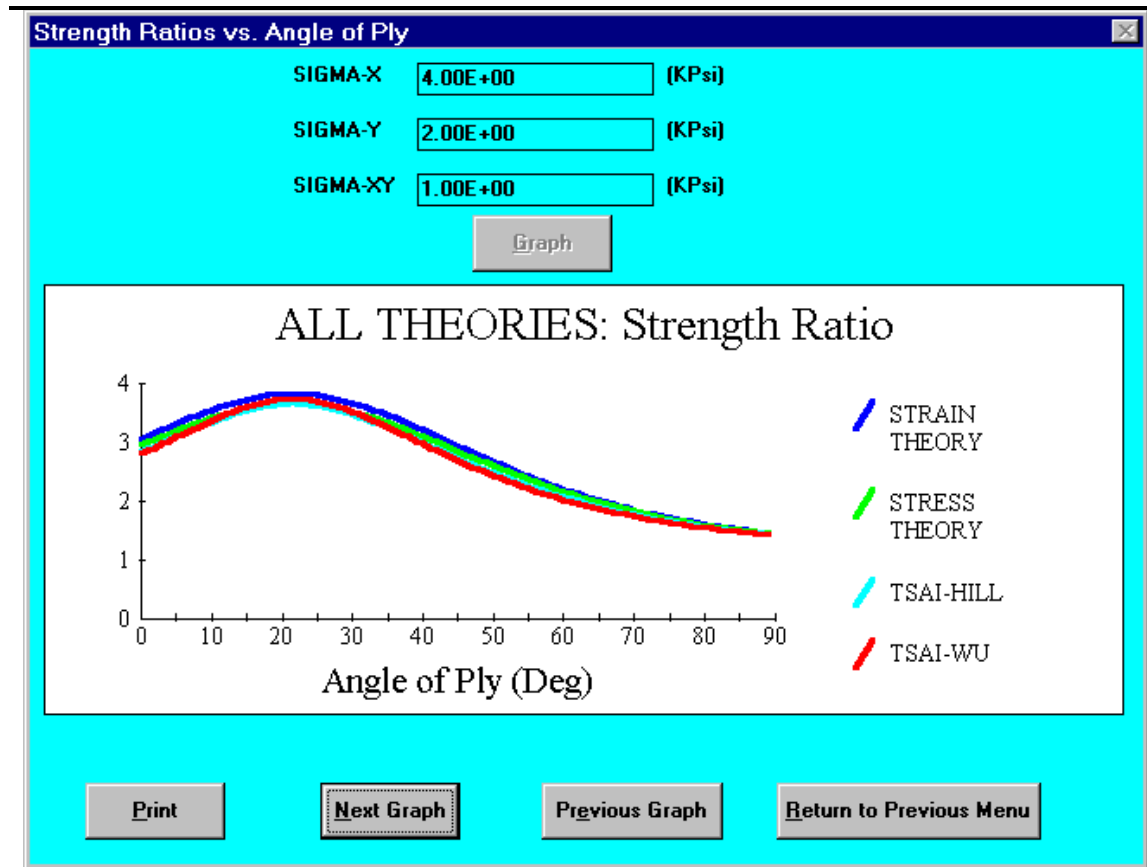

Figure 5. Strength ratio as a function of angle of ply for Task 6.3.
4. To analyze the lamina for the optimum fiber angle for the given load, select the Graph: Strength Ratios vs. Angle of Ply Button. Enter the components of the stress vector. Once you enter these values, you are presented with the first of four graphs showing the strength ratio as a function of the angle of ply. The second graph shows the results of using the Maximum Stress failure theory. From the graph (Figure 5), the lamina will not fail ( $SR > 1$ ) for fiber angles between  $10^\circ$  and  $30^\circ$ .